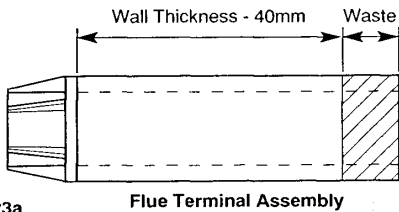

Fig. 23a
2. Take the **Flue Terminal Assembly** and measure from the terminal end the wall thickness and subtract 40mm (Fig. 23a). Cut the waste off the plain end.